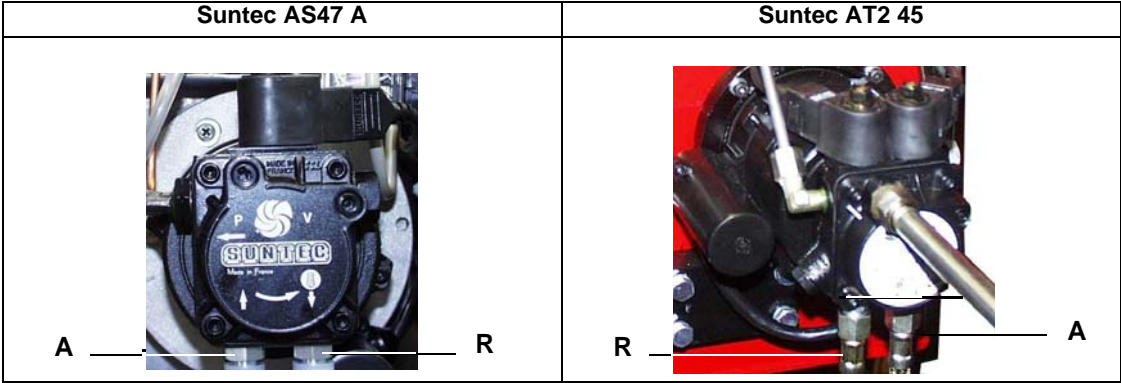

Fig. 15
- 4 when the EVG lamp turns to on (see chapter page 26) remove the photoresistor **FR** (Fig. 15) from its slot and light it up;
- 7 replace the photoresistor **FR** (Fig. 15) into its slot;
- 4 when the EVG lamp turns to on (see chapter page 20) remove the photoresistor **FR** (Fig. 15) from its slot and light it up;